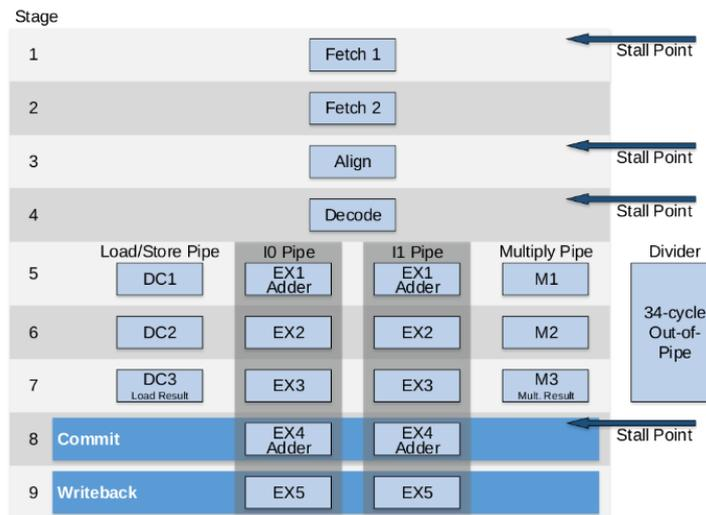

Figure 18. SweRV EH1 core microarchitecture
The **SweRV EH1 Core** is a machine-mode (M-mode) only, 32-bit CPU core which supports RISC-V’s integer (I), compressed instruction (C), and integer multiplication and division (M) extensions. The Programmer’s Reference Manual ([https://github.com/chipsalliance/Cores-SweRV/blob/master/docs/RISC-V SweRV EH1 PRM.pdf](https://github.com/chipsalliance/Cores-SweRV/blob/master/docs/RISC-V_SweRV_EH1_PRM.pdf)) describes in detail all aspects of the core, from its structure to timing information and memory maps. SweRV EH1 is a superscalar core, with a dual-issue 9-stage pipeline (see Figure 18) that supports four arithmetic logic units (ALUs), labelled EX1 to EX4 in two pipelines, I0 and I1. Both ways of the pipeline support ALU operations. One way of the pipeline supports loads/stores and the other way has a 3-cycle latency multiplier. The processor also has one out-of-pipeline 34-cycle latency divider. Four stall points exist in the pipeline: ‘Fetch 1’, ‘Align’, ‘Decode’, and ‘Commit’. The ‘Fetch 1’ stage includes a Gshare branch predictor. In the ‘Align’ stage, instructions are retrieved from three fetch buffers. In the ‘Decode’ stage, up to two instructions from four instruction buffers are decoded. In the ‘Commit’ stage, up to two instructions per cycle are committed. Finally, in the ‘Writeback’ stage, the architectural registers are updated.